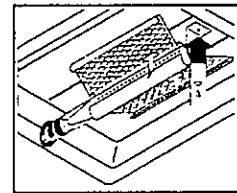

Fig. 20
- Remove the screw and washer holding the burner in place (See Figure 20).